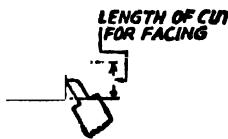

Fig. 6'5
3. Facing. It is the process of material removal, from the surface at right angles to the axis of rotation of the job. Fig. 6'5 shows how the facing is done.